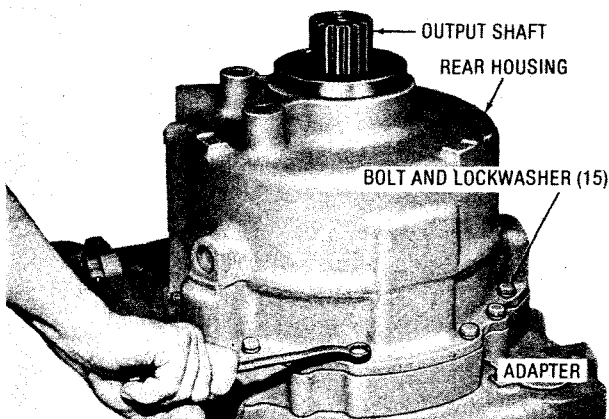

Fig. 5-50. Removing rear housing bolts (TRT 2221-3, 2421-3 with overdrive)
(1) Remove fifteen bolts and lockwashers which retain the rear housing (fig. 5-50).